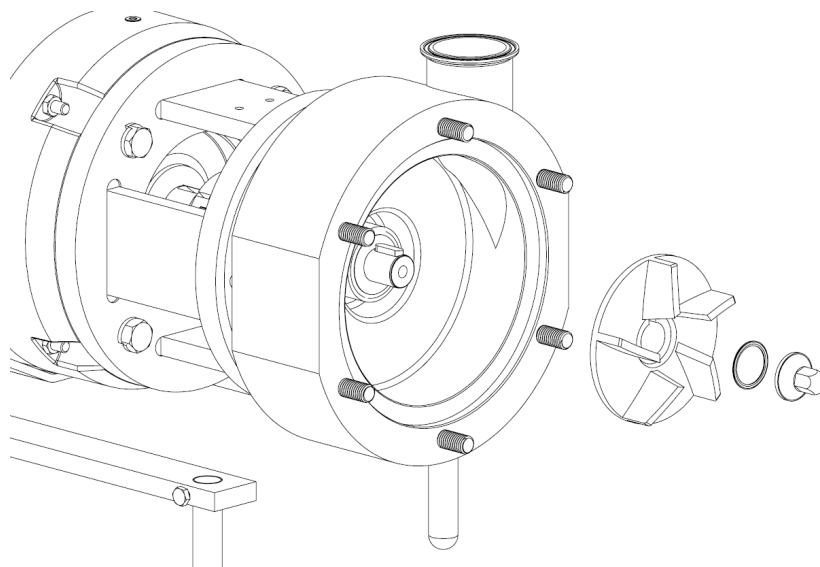

Figure 17
9. Replace the rotor, rotor nut and gasket, Figure 17.